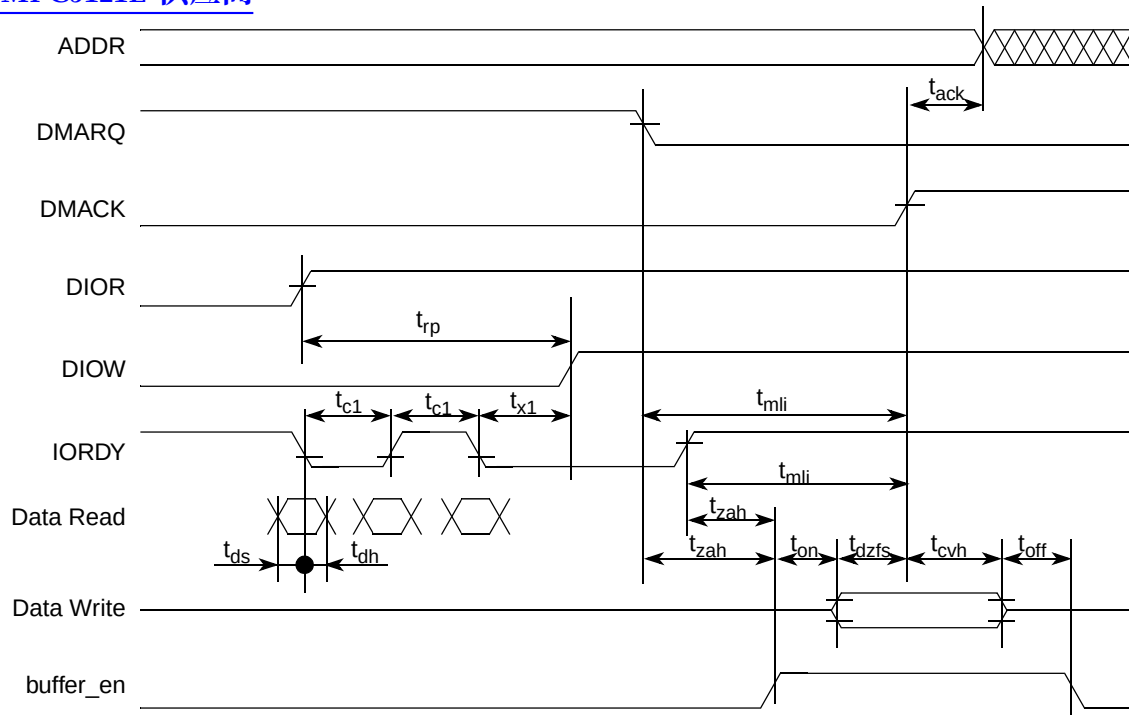

Figure 30. UDMA In Host Terminates Transfer
- Figure 30 gives timing for host terminating UDMA in transfer